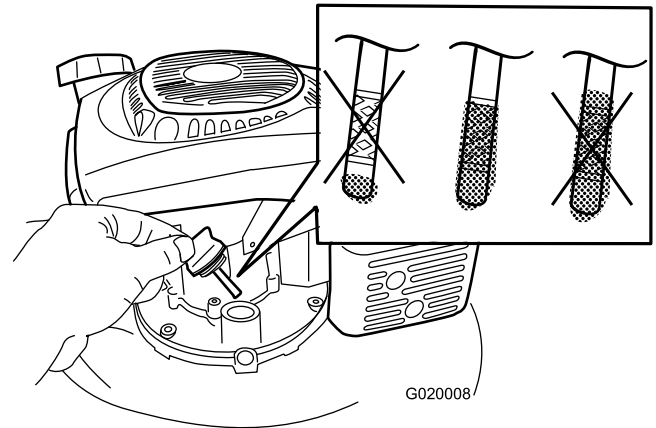

Figure 22
7. **Slowly** pour oil into the oil-fill hole until the oil level reaches the Full line on the dipstick (Figure 22). **Do not overfill.** (Max. fill: 0.59 l (20 oz.), type: 10W-30 or SAE 30 detergent oil with an API service classification of SJ or higher.)